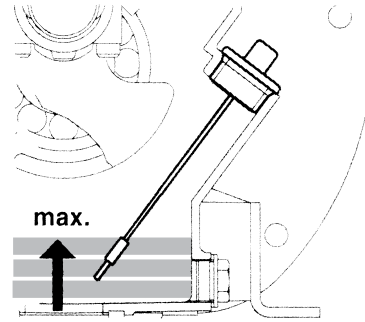

Figure 5. Engine Oil Level
4. If the oil level is low (Figure 5), fill to the edge of the oil filler hole with the recommended oil type (Table 4). Maximum oil capacity is 1.16 quarts (1.10 liters).